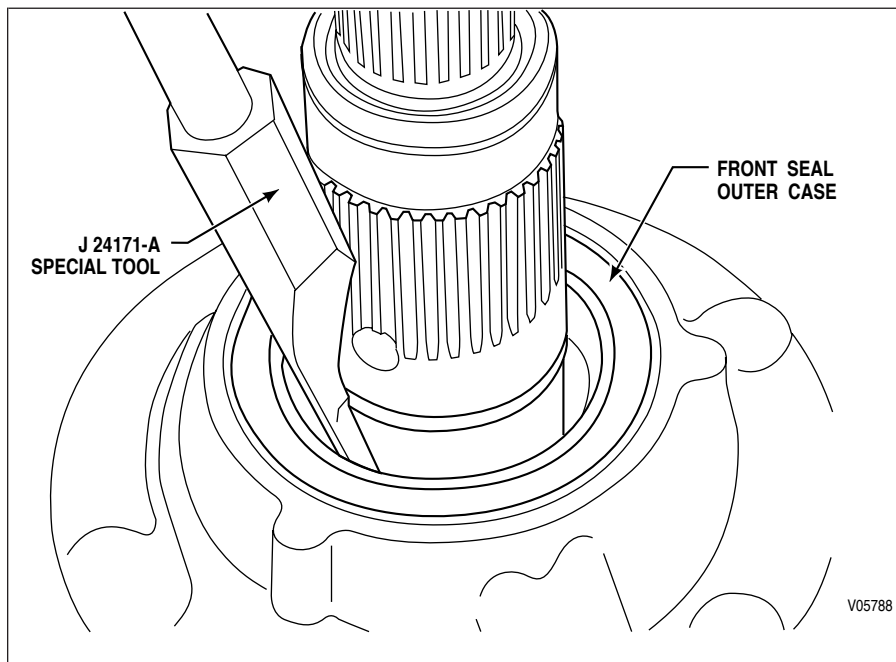

Figure 6–14. Front Seal Removal
6. Position the 90 degree hook behind the rear face of the seal outer case (refer to Figure 6–14).